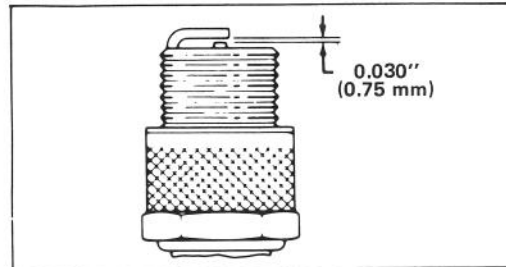

Figure 10
3. Set air gap at 0.030" (0.75 mm) (Fig. 10). Install correctly gapped spark plug and gasket seal. Tighten plug firmly to 15 ft-lb. (20.4 N-m).